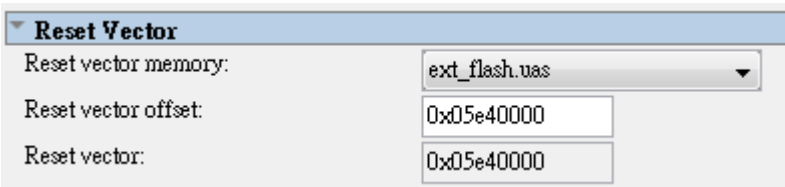

Figure 4-6 Reset Vector Settings for NIOS II Processor
2. In NIOS II processor options, select FLASH as reset vector memory and specify 0x05E40000 as reset vector, as shown in **Figure 4-6**.